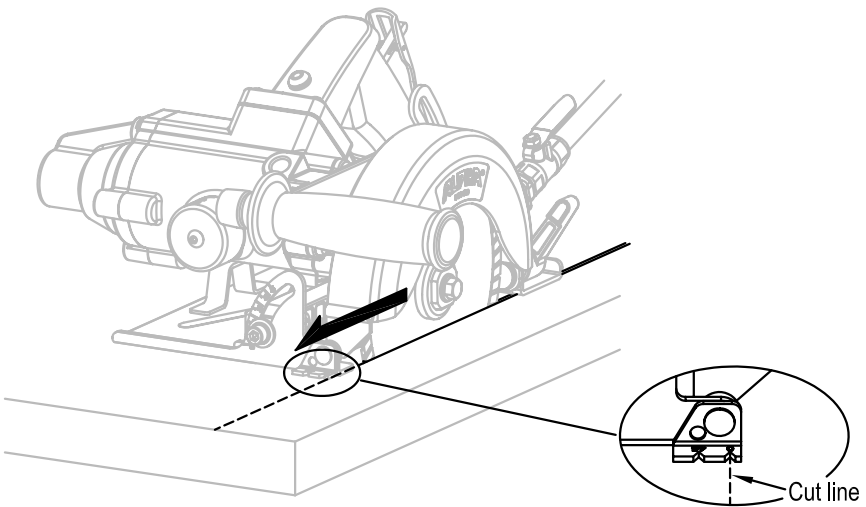

Figure 16
5. Advance the stone cutter slowly allowing the blade to do the work, keeping the base plate flat on the stone and the cut mark in line with your cut line. (See Fig. 16)